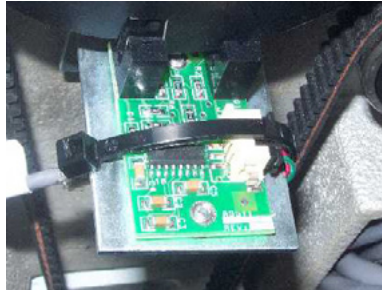

Figure 1 - Connection to Z-Index PCB
10. Use small plastic cable ties and tie the connectors snug by attaching the cable tie around the PCB such that the cable tie holds the connector in place. Failure to do this might result in the connectors coming loose which can create difficulties in troubleshooting. (See Figure 1.)